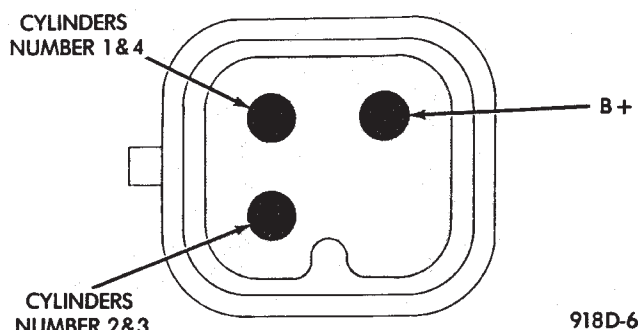

Fig. 2 Ignition Coil Electrical Connection—Turbo III Engine
(1) Remove the ignition cables and measure the resistance of the cables. Resistance must be between 3,000 to 12,000 ohms per foot of cable. Replace any cable not within tolerance.
(2) Disconnect the electrical connector from the coil pack (Fig. 2).